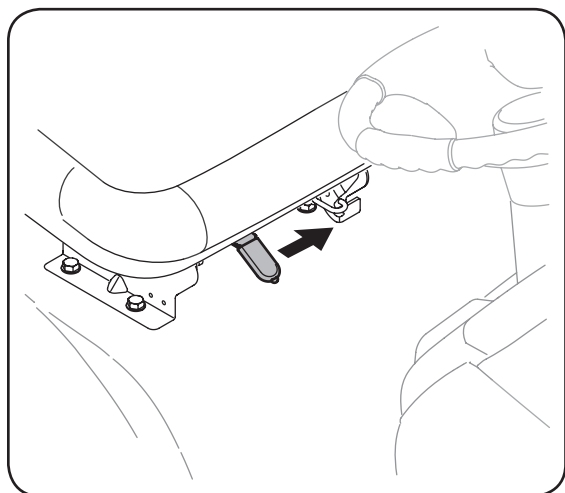

Figure 5-3
- To adjust the position of the seat on models equipped with a seat adjustment lever, move the lever to the left and slide the seat forward or rearward. See Figure 5-3. Make sure seat is locked into position before operating the tractor.